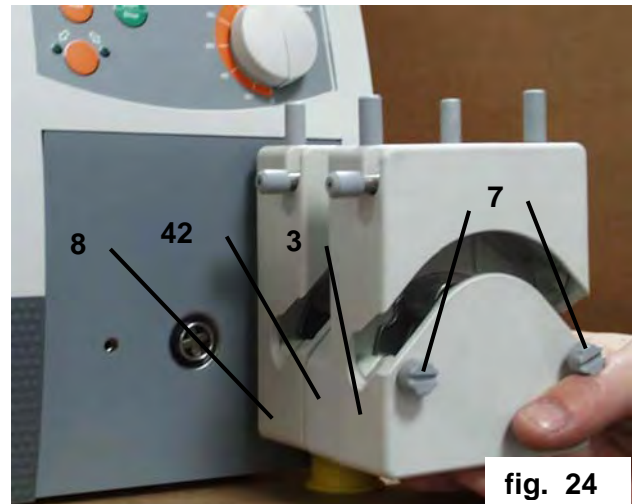

fig. 24
2.2. SP quick d (2 ea. SP quick pump heads arranged in series) (figs. 24,23,22)